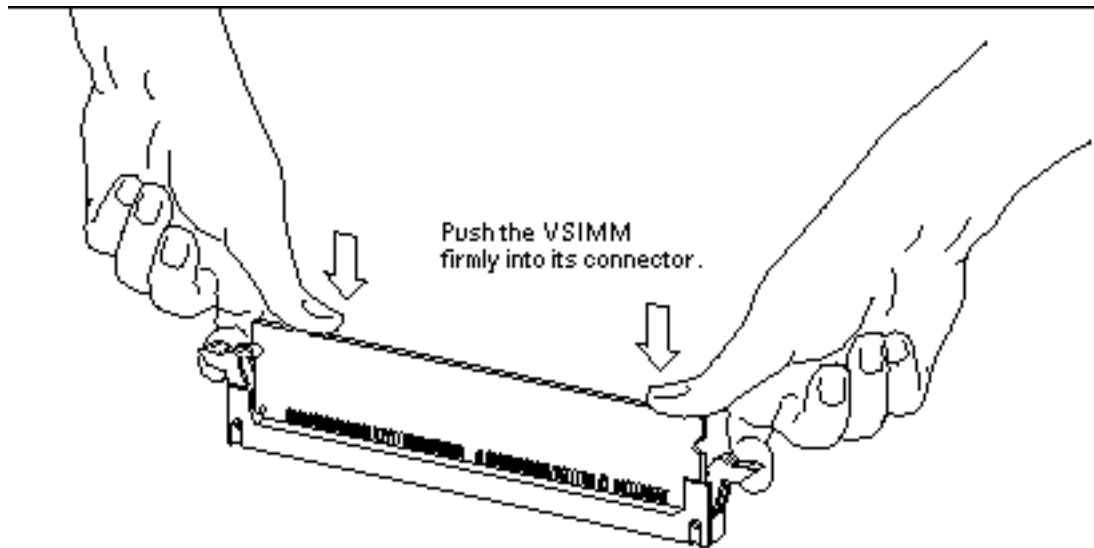

Figure 11-26 Installing the VSIMM
- 4. Place your thumbs as shown in Figure 11-26 and push the VSIMM firmly into its connector.**